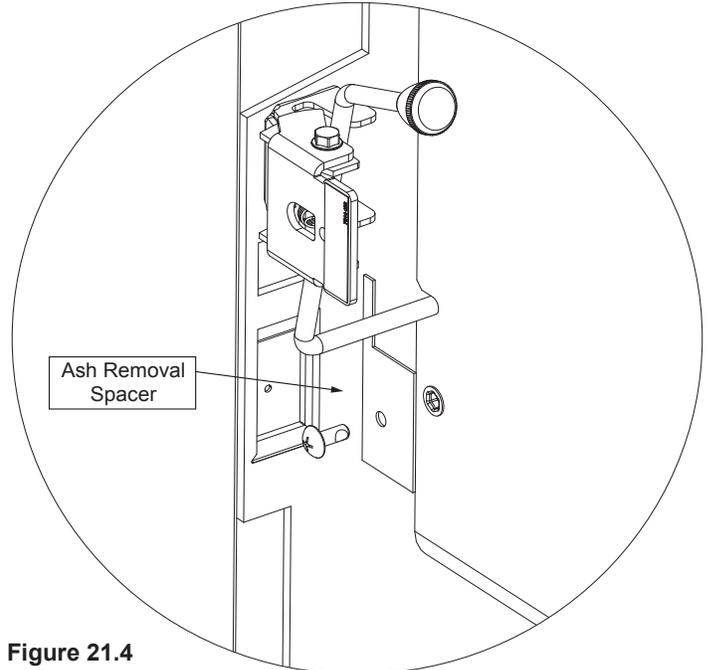

Figure 21.4
Insert Access Cover Handle handle into slot of ARS Cover to remove ARS Cover for cleaning ash out of firebox (Figure 21.4).
2. Install ARS Spacer on left hand side with one bolt using Phillips head screwdriver (**Figure 21.4 on page 21**).